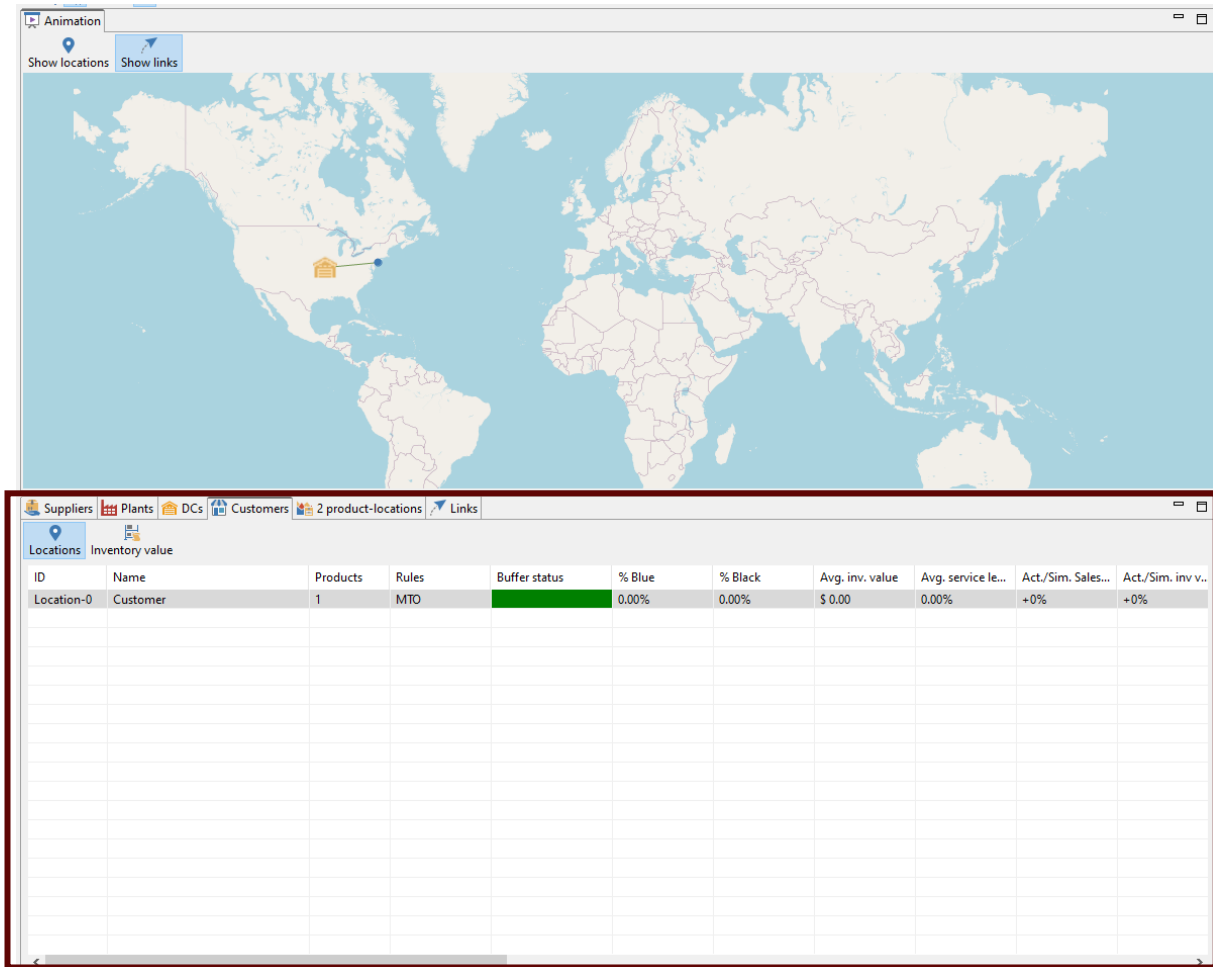

Figure 8: Customer Details Step 1
Step 1: Navigate to the tab you want to see more detail of. In this example, we want to view the Customer details (Figure 8).